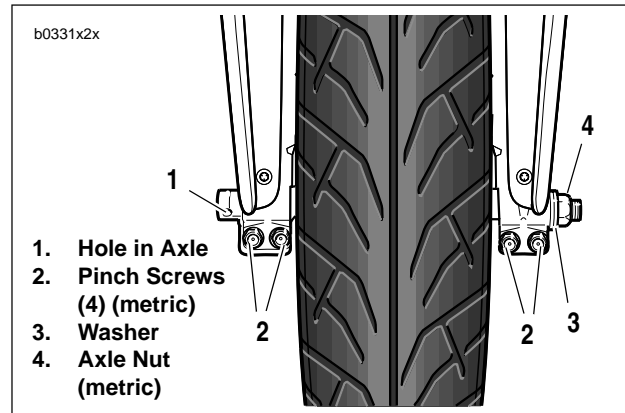
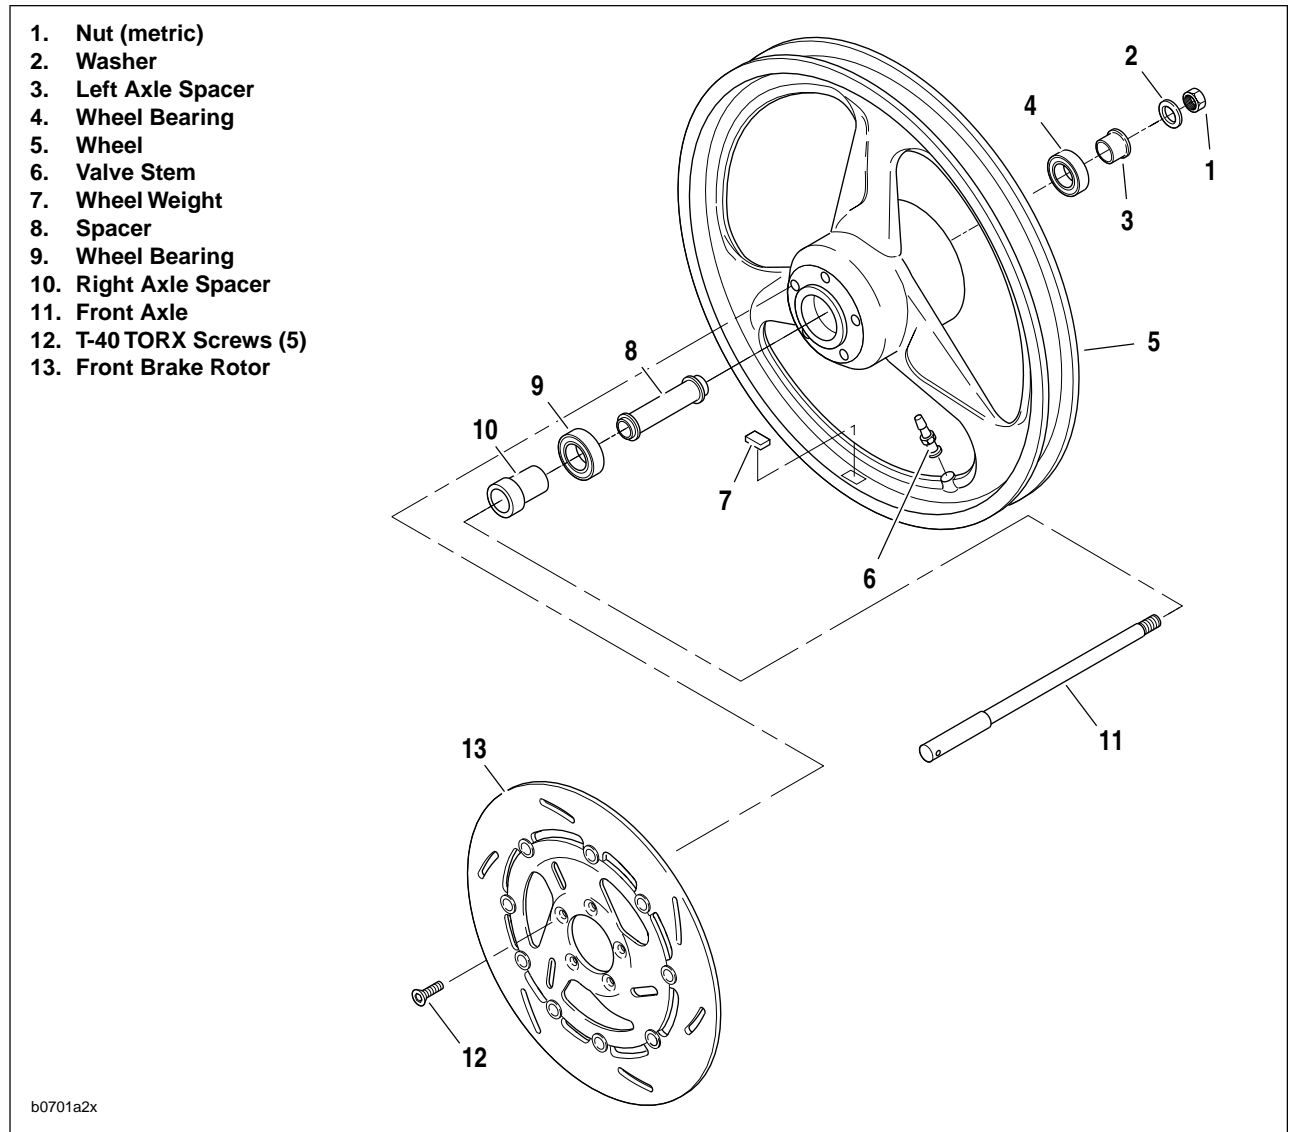

Figure 2-4. Front Wheel Mounting
Figure 2-5. Front Wheel
3. See Figure 2-4. Insert screwdriver/rod through hole in axle (1). Loosen front axle nut (4) (metric).
4. Loosen all four pinch screws (2) (metric).
5. Remove front axle nut (4) and washer (3). Pull front axle out of wheel hub while supporting front wheel.
6. See Figure 2-5. Remove front wheel.
1. See Figure 2-5. Move wheel to bench area. On brake rotor side of wheel, remove right axle spacer (10).
3. See Figure 2-5. Remove five screws (12) to detach front brake rotor (15) from wheel hub.
1. See Figure 2-5. Install front brake rotor (13) on right side of wheel. Slots in carrier must line up with wheel spokes.
- b. Apply LOCTITE THREADLOCKER 243 (blue) to threads of each of the five T40 TORX screws (12).
- c. Install rotor (13) on wheel hub using screws (12). Tighten screws in criss-cross pattern to 20-22 ft-lbs (27-30 Nm).
- d. Install nut (1). Torque nut (1) to 7.5-10 ft-lbs (10-14 Nm).
2. See Figure 2-5. Install spacer (8).
4. On the side of the wheel opposite the brake rotor insert left axle spacer (3) into hub until it seats in bore. Spacer sleeve must not be cocked or tilted in bore.
5. On the right side of the wheel insert right axle spacer (10) into hub until it seats in bore. Spacer sleeve must not be cocked or tilted in bore.